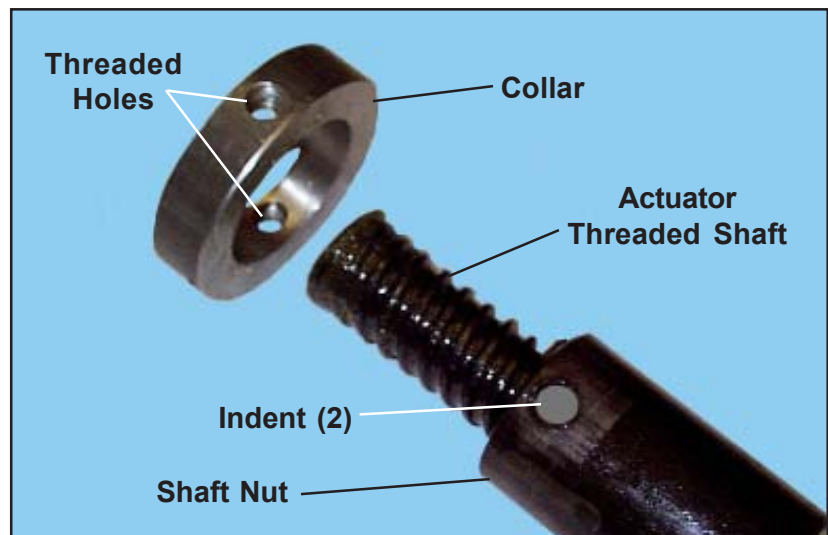

Figure 32. Actuator Shaft and Collar
23. Slide the collar off the shaft nut and the actuator threaded shaft (Figure 32).
2. Slide the collar onto the shaft nut on the actuator threaded shaft (Figure 32).